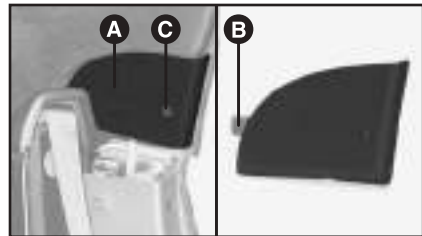

fig. 62
2) Remove the side inner panels **A**-**fig. 62** from the hard top covering by unscrewing the fixing screws.
7) Fit side panels **A**-**fig. 62** by inserting tongue **B** into its position in the hard top upholstery and fix them into position with screw **C**.